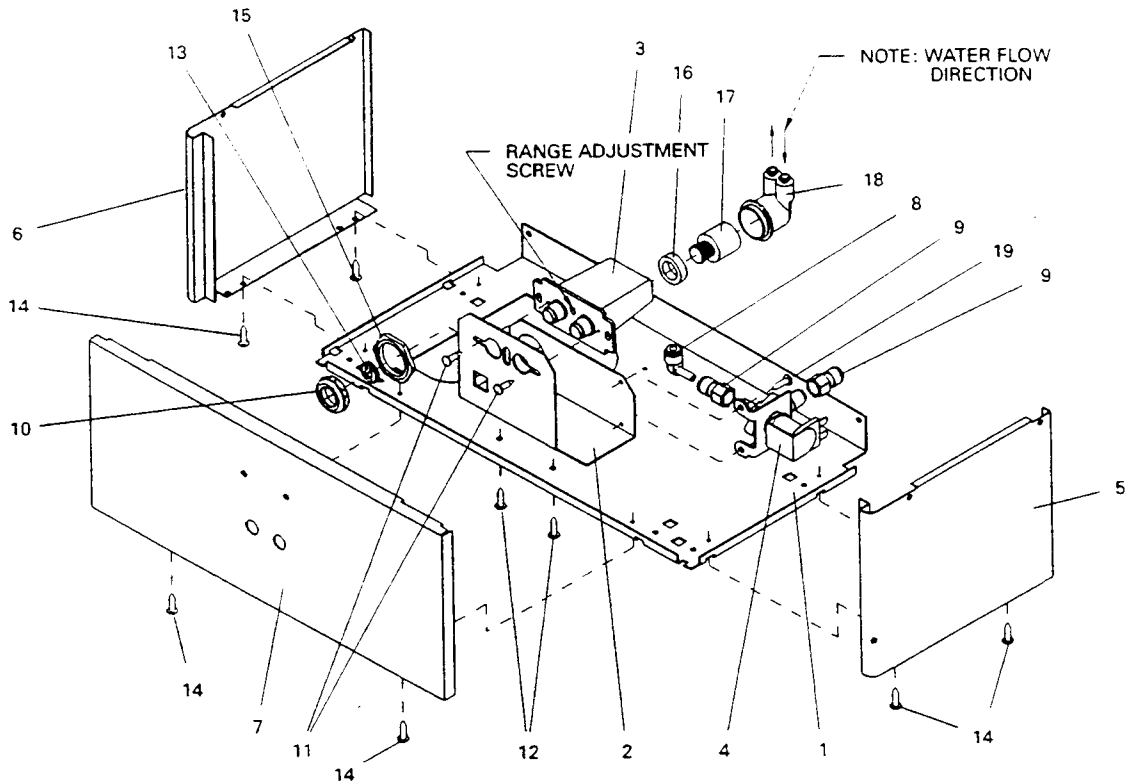

FIG. 5
- 12). Stream height is factory set at 45 - 50 PSI. If supply pressure varies greatly from this, readjust stream height to approx. 1-1/2" above the bubbler guard by turning adjustment screw on regulator (item no. 17), accessible by removing front push panel, item No. 7 (see Fig. 5)
- b. Using a small tip screwdriver, rotate the range adjusting screw clockwise to increase range or counter-clockwise to decrease range. (see Fig. 5)